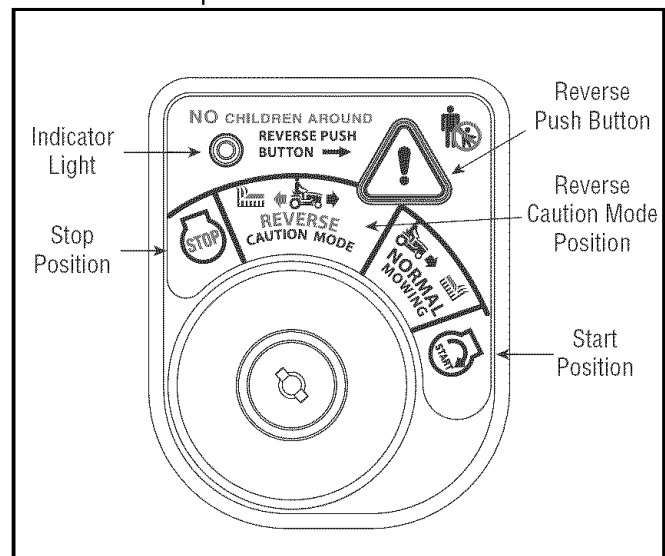

Figure 4
2. Turn the key from the **NORMAL MOWING** (Green) position to the **REVERSE CAUTION MODE** (Yellow) position of the key switch module. See Figure 4.
3. Depress the **REVERSE PUSH BUTTON** (Orange, Triangular Button) at the top, right corner of the key switch module. The red indicator light at the top, left corner of the key switch module will be **ON** while activated. See Figure 4.